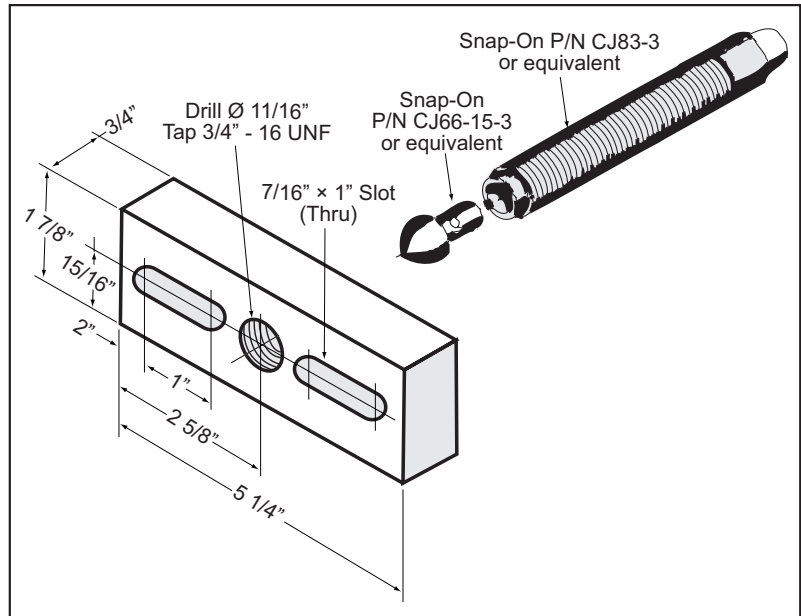

Figure 3. Bar Puller Illustration
5. Attach bar pullers as shown in Figure 3 to each bearing bore and pull end plate [4].